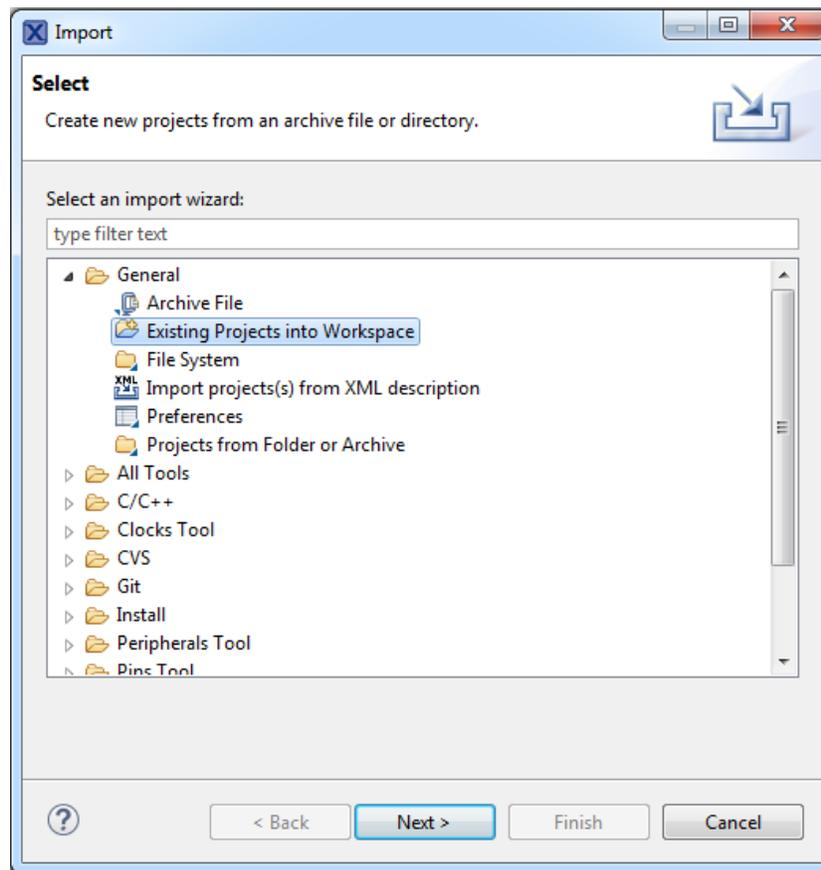

Figure 18. MCUXpresso import
5. After waiting a moment to import, the SDK successfully installs into the MCUXpresso IDE. The second step is to import the project to the IDE. Open the MCUXpresso IDE and click “File->Import”. When the new dialog box appears, select “Existing Projects into Workspace” (Figure 18).